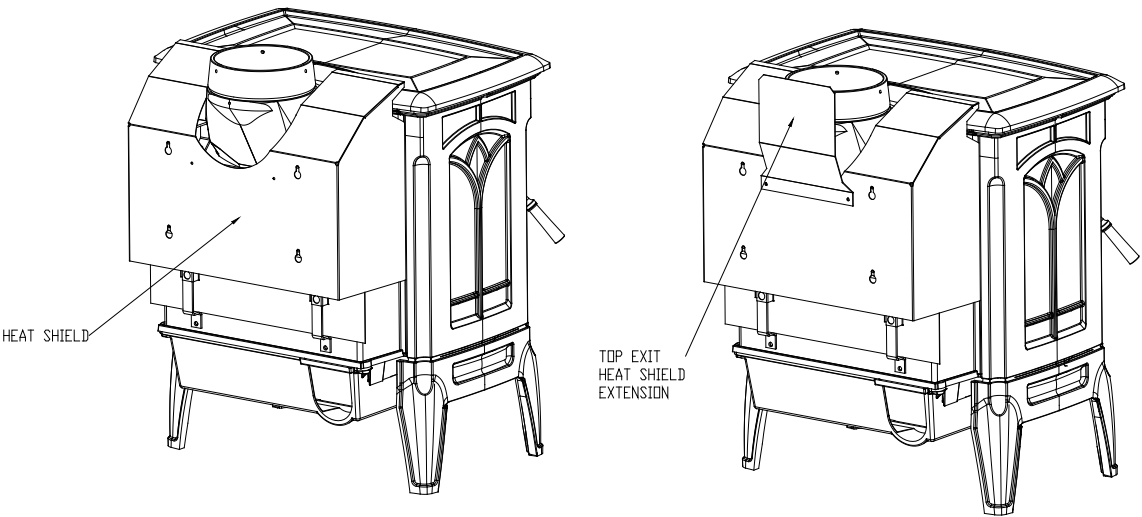

Figure 2
4. Attach the **heat shield** by sliding it over the upper four screws. Hold the **heat shield extension** up to the brackets (*as shown in figure 2*) align the two holes on the shield with the two lowest screws and adjust to pass screws through the holes. Once both screws are through the holes slide the heat shield down to catch the screws in the slots then tighten to the brackets.
3) **For top exit installations only:** Attach the **top exit heat shield extension plate** to the **rear heat shield**. Align the holes in the **top exit shield extension** with the holes on the **rear heat shield** and attach using the two #8-32 screws provided. Tighten the screws to hold the heat shield securely in place (*see figure 2 below*).